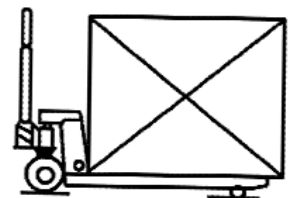

Fig. 6
- 4.6 Set the control lever (3) on the operating handle (1) to the **RAISE** position. Refer to Fig. 6.
- 6.1.3 Ensure that the goods being transported are placed on the middle of the pallet truck forks. Refer to Fig. 6. Depress the power ON switch on the right-hand side of the console.
- 6.2.3 Place the pallet forks under the load to be weighed. Ensure that the load is correctly balanced. Refer to Fig. 6.